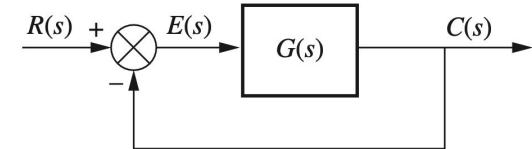

FIGURE P9.1
③ COMPENSATOR
32. Design a PI controller to drive the step-response error to zero for the unity feedback system shown in Figure P9.1, where